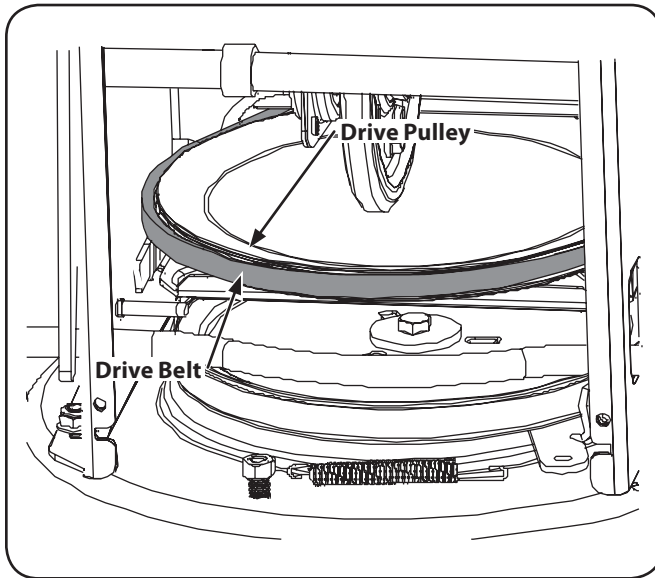

Figure 7-7
6. Slip the drive belt off the pulley and between friction wheel and drive pulley. See Fig. 7-7.